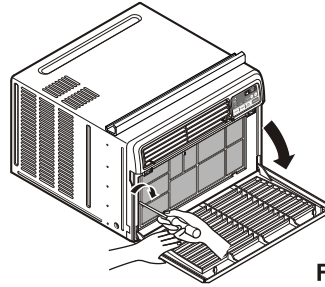

Fig. 10
10. Attach the front grille to the cabinet by inserting the tabs on the grille into the tabs on the front of the cabinet. Push the grille in until it snaps into place. (See Fig.10)
11. Lift the inlet grille and secure it with a screw (Type A) through the front grille. (See Fig. 10)